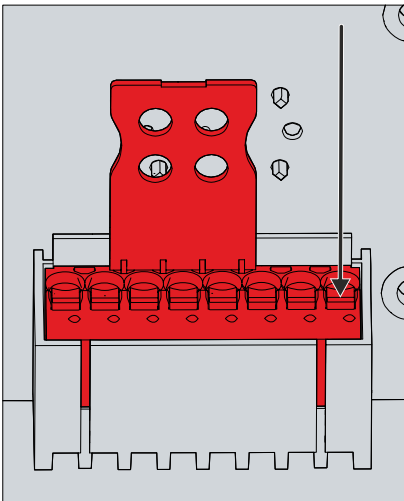

Fig. 31: Disconnecting cables
1. Use a screwdriver to press lightly into the respective square opening on the connection strip (see Fig. 31).